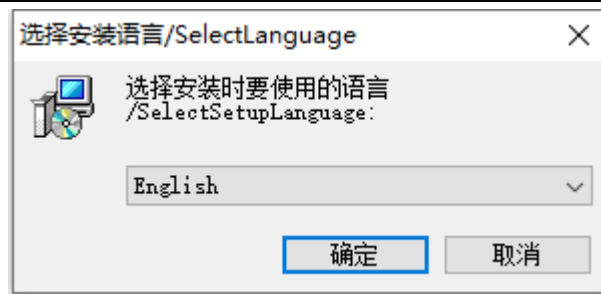

Figure 2.2-9
(11) After that, the software automatically enters the CAD component installation phase, and the dialog box shown in Figure 2.2-9 pops up. Click OK to proceed to the next step.